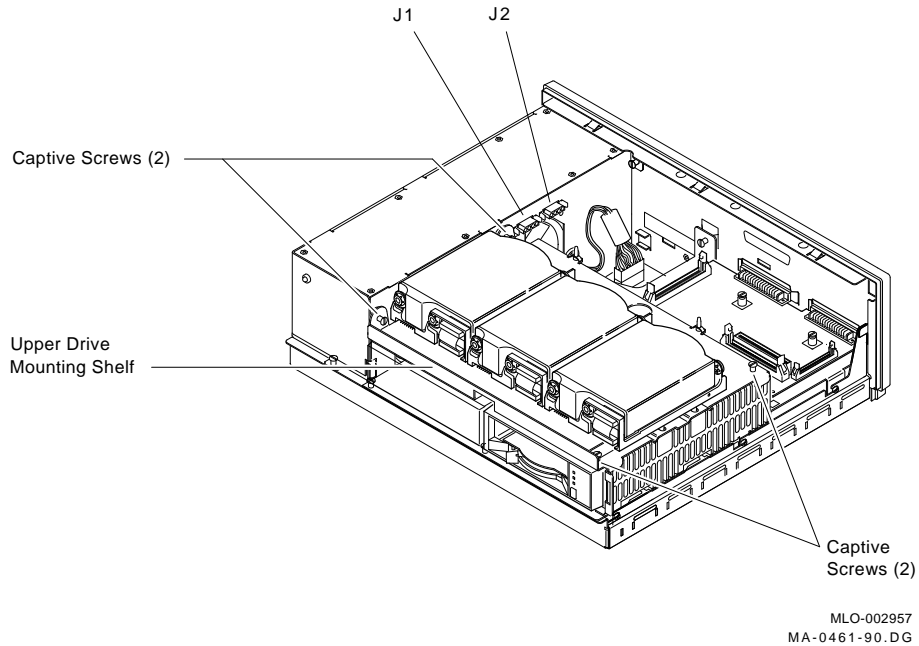

Figure 2-3 Upper Drive Mounting Shelf Removal
3. Unscrew the four captive screws on the upper drive mounting shelf (Figure 2-3).